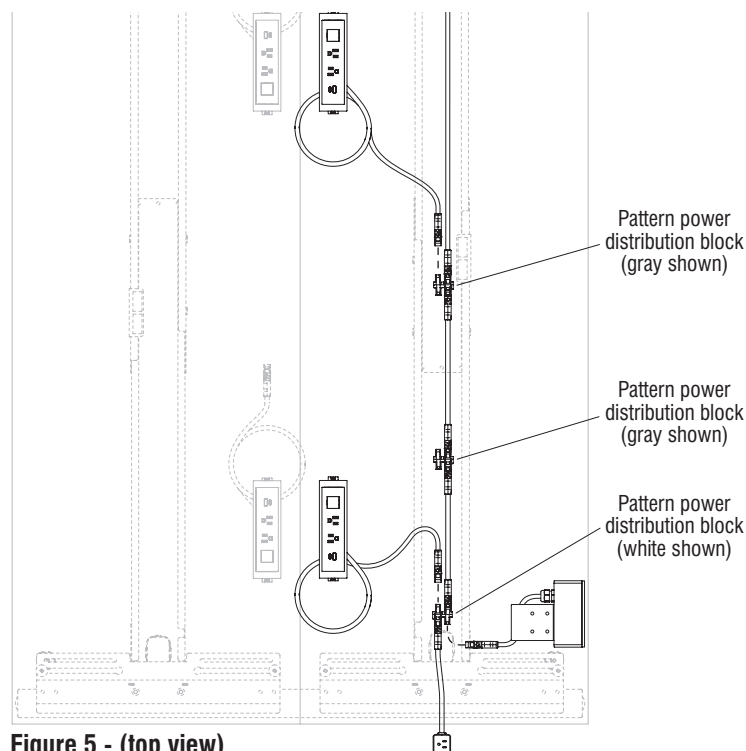

Figure 5 - (top view)
1. If the table being assembled contains at least one power module for Pattern, route the connector end of each module toward an available power distribution block on the Pattern electrical system inside the wire trough. Repeat step 1 to route the remaining power modules from the other tables to an available power distribution block (Figure 5 & Details E & F).